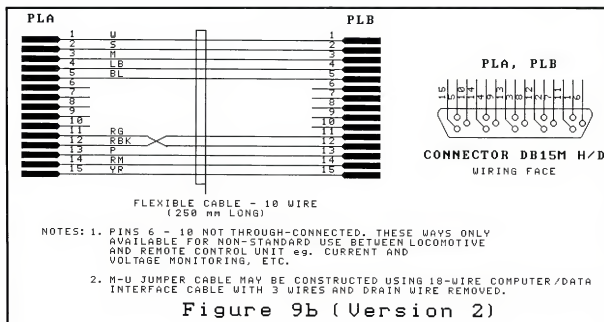

Figure 9b (Version 2)
- Referring to Figure 9b, on one plug of the interconnecting jumper cable remove the shell and reverse the wires connected to pins 11 and 12. Check and make sure there are no bridging strands of wires. Replace the shell and paint a 5-10mm wide red band around the cable on the modified end to remind you that it has the direc-